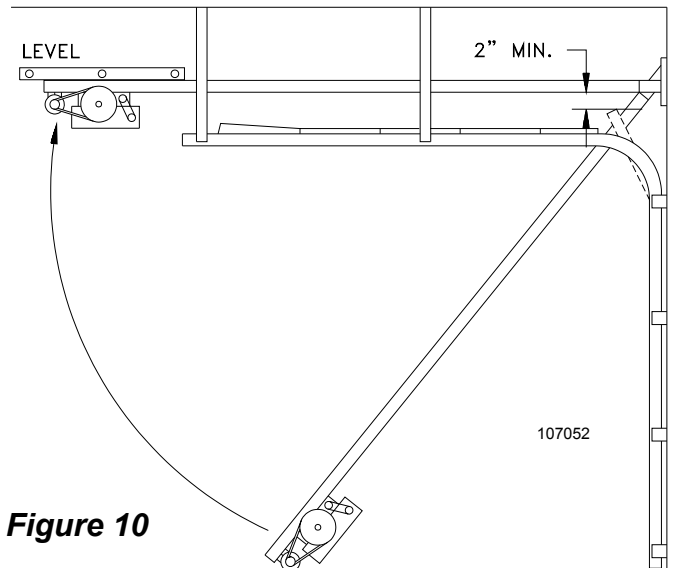

Figure 10
6) Swing the operator to a horizontal position above the door guide rails (high enough to raise the door) and temporarily secure by suspending from the ceiling with a suitable rope or chain or support from the floor to the operator. Now open the garage door slowly, being careful not to dislodge the temporary support. Lower the operator until it is level. Make sure the operator is aligned with the center of the door and the bottom of the rail is at least 2" above the high arc of the door. See Figure 10.